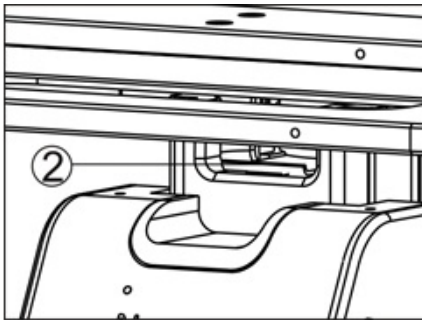

Fig. 26
- ★ When the lower (transmitted) illumination is not used, push the light shield ② in completely. Fig. 26)